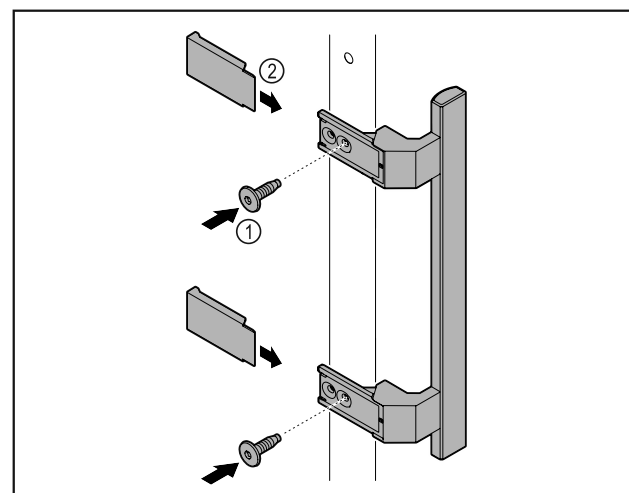

Fig. 9
- Attach handle from accessory kit to the door using the screws Fig. 9 (1) supplied.
- Put on cover Fig. 9 (2).